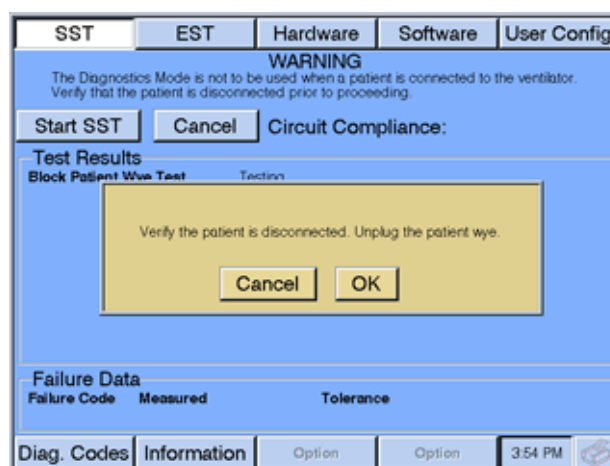

Figure 5-4: Starting SST
2. Touch **SST** on the diagnostic screen (Figure 5-4).